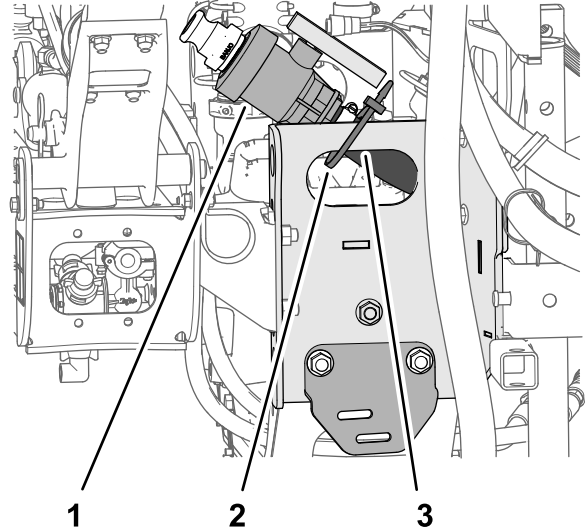

Figure 13
1. Remove the cable tie that secures the drain valve and hose for the sprayer tank to the skid channel (Figure 13).